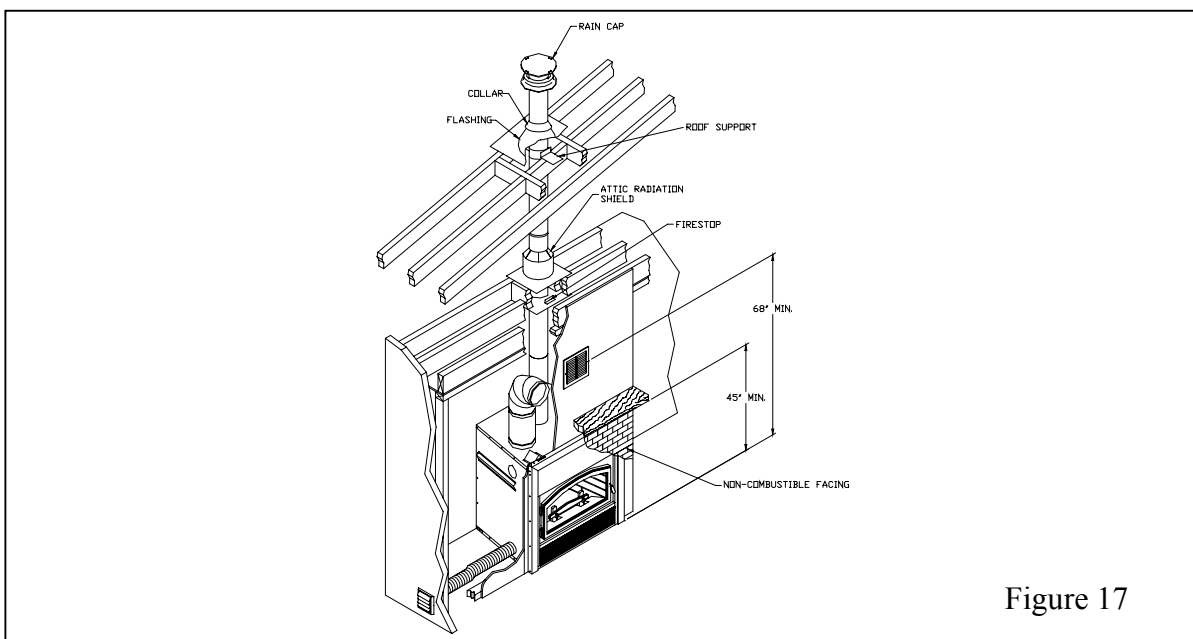

Figure 17
- c) The fireplace façade can be covered with non-combustible material (fig. 17).